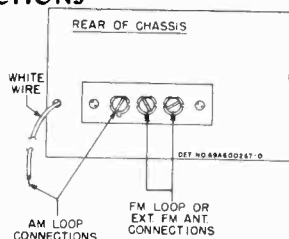

FIGURE 1. ANTENNA CONNECTIONS
No outside antenna or ground is normally required for standard broadcast (AM) reception, as a loop antenna is located inside the cabinet. Antenna connections are shown in Figure 1. In locations where additional pick-up is desired, an external antenna may be connected to the clip marked "EXT BC ANT" on the loop antenna.
In "fringe" or weak signal areas, improved FM reception can be obtained by using an outside FM antenna. The loop connections should be removed from the terminal strip on the rear of the chassis and the outside antenna should be connected, through a 300 ohm twin transmission line, to the terminal strip, as shown in Figure 1. Orient the antenna to obtain maximum volume of the FM stations.